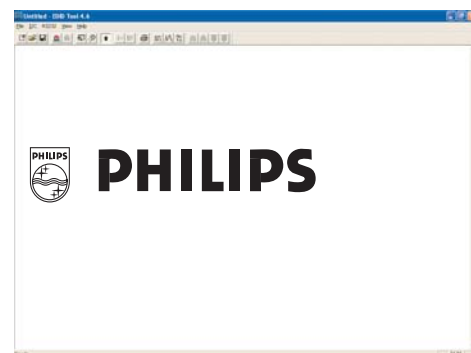

Fig. 8
4. Click OK button. The main menu appears (as shown in Fig. 8). This is for initialize alignment box.